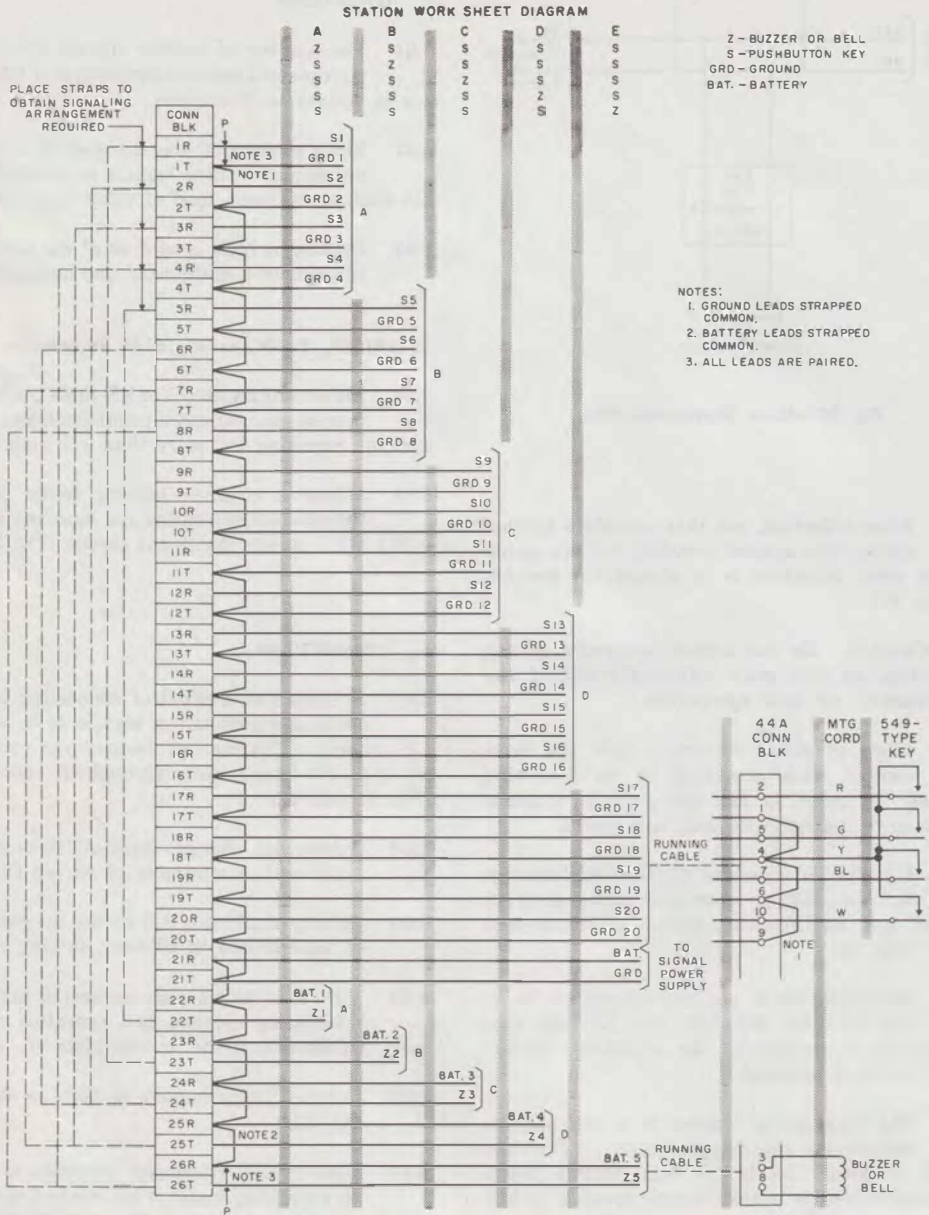

Fig. 21—Large Pushbutton and Buzzer System
- 6.01 A simplified method of connecting buzzers, bells, and pushbutton keys is to be used on all systems. This method ensures the pairing of all key and buzzer leads throughout the system (Fig. 21 and 22).